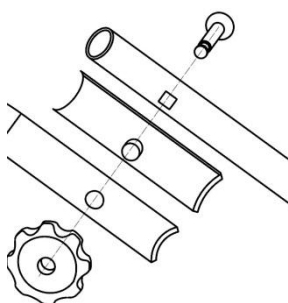

Fig.3A
A). Use bolts to pass through the upper and lower hand and the insulating sleeve in turn according to the Fig.3A;